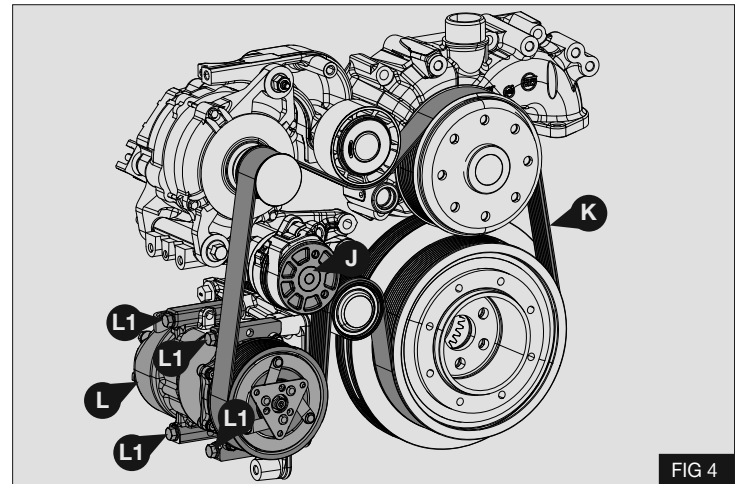

FIG 4
4. Release tension on drive belt and lock automatic belt tensioner \textcircled{J} using a suitable pin. - Fig 4
5. Mark direction of rotation on drive belt \textcircled{K} , remove belt and retain for re-use. - Fig 4
6. Remove and retain fasteners $\textcircled{L1}$ securing AC compressor \textcircled{L} or Fasteners $\textcircled{M1}$ securing Foolish pulley \textcircled{M} . - Figs 4 & 5